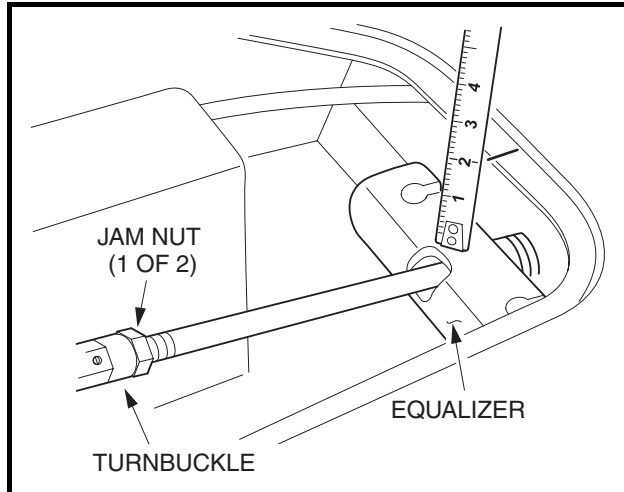

Figure 6-18 Brake Equalizer Adjustment
2. Ensure that both threaded rods are visible in the witness holes of the turnbuckle before the jam nuts are tightened (**Figure 6-18, Page 6-10**).
3. Tighten the rear jam nut first (labeled 1 of 2) to 13 ft-lb (17.5 N·m) (**Figure 6-18, Page 6-10**), then tighten the front jam nut to 13 ft-lb (17.5 N·m). **See following WARNING.** For optimal performance, drive the vehicle and apply the brakes approximately 20 times to burnish the shoes, center the clusters, and adjust the brake mechanism.